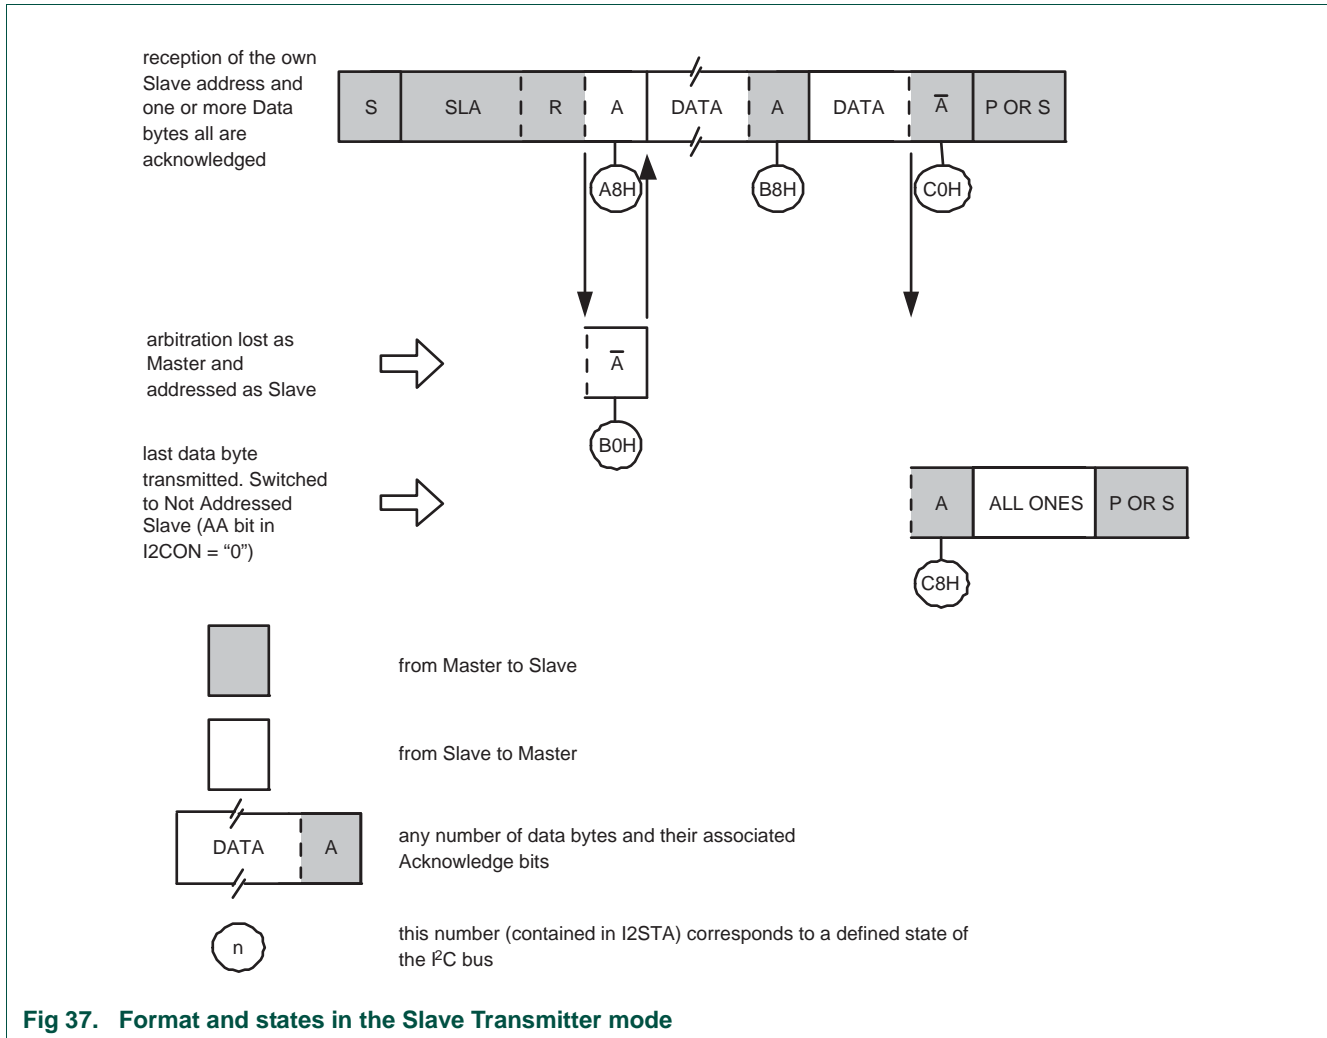

Fig 37. Format and states in the Slave Transmitter mode
In the slave transmitter mode, a number of data bytes are transmitted to a master receiver (see Figure 37). Data transfer is initialized as in the slave receiver mode. When I2ADR and I2CON have been initialized, the I2C block waits until it is addressed by its own slave address followed by the data direction bit which must be “1” (R) for the I2C block to operate in the slave transmitter mode. After its own slave address and the R bit have been received, the serial interrupt flag (SI) is set and a valid status code can be read from I2STAT. This status code is used to vector to a state service routine, and the appropriate action to be taken for each of these status codes is detailed in Table 238. The slave transmitter mode may also be entered if arbitration is lost while the I2C block is in the master mode (see state 0xB0).